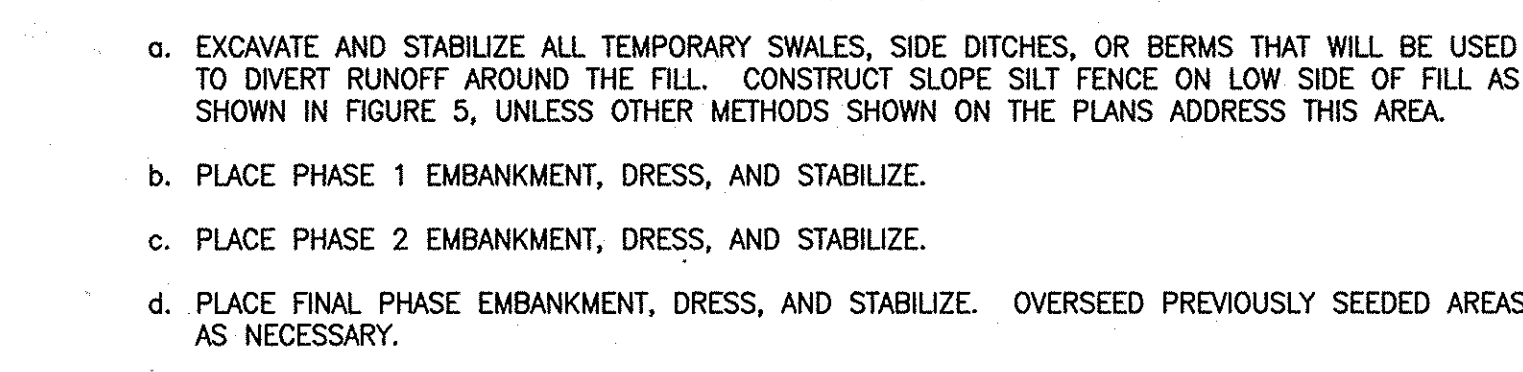

FIGURE 5: INCREMENTAL STABILIZATION - FILL
- CONSTRUCTION SEQUENCE: REFER TO FIGURE 5 (BELOW).
- EXCAVATE AND STABILIZE ALL TEMPORARY SWALES, SIDE DITCHES, OR BERMS THAT WILL BE USED TO DIVERT RUNOFF AROUND THE FILL. CONSTRUCT SLOPE SILT FENCE ON LOW SIDE OF FILL AS SHOWN IN FIGURE 5, UNLESS OTHER METHODS SHOWN ON THE PLANS ADDRESS THIS AREA.
- SELECT ONE OR MORE OF THE SPECIES OR MIXTURES LISTED IN TABLE 26 FOR APPROPRIATE PLANT HARDINESS ZONE (FROM FIGURE 5) AND ENTER THEM IN THE TEMPORARY SEEDING SUMMARY BELOW, ALONG WITH APPLICATION RATES, SEEDING DATES, AND SEEDING DEPTHS. IF THIS SUMMARY IS NOT PUT ON THE PLANS AND COMPLETED, THEN TABLE 26 MUST BE PUT ON THE PLANS.